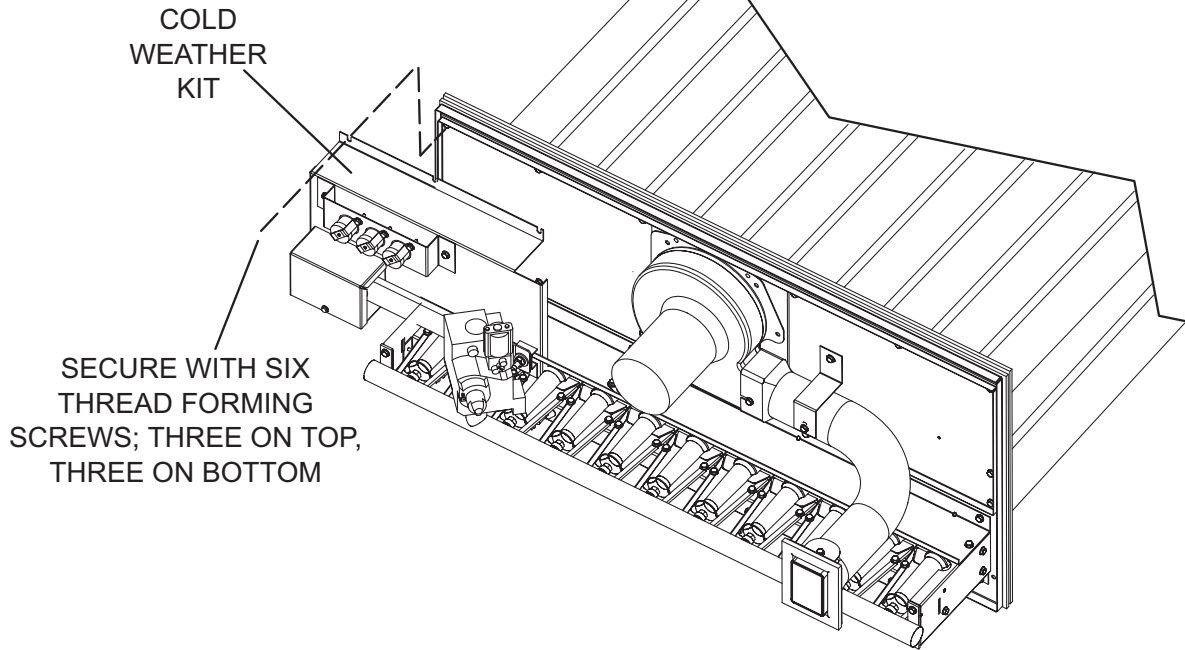

FIGURE 14
- 2 - Install both cold weather assemblies as shown in FIGURE 14. Use existing screws.
- 2 - Install both cold weather assemblies as shown in FIGURE 14. Use six thread forming screws, provided.